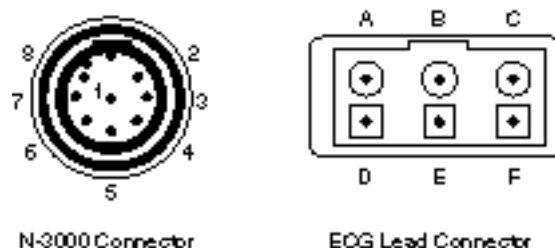

Figure 3-6: ECG Cable Pin Locations
1. Disconnect the SCE-10 ECG cable from the N-3000 and the ECG leads. Pin locations for both ends of the ECG cable are identified in Figure 3-6.